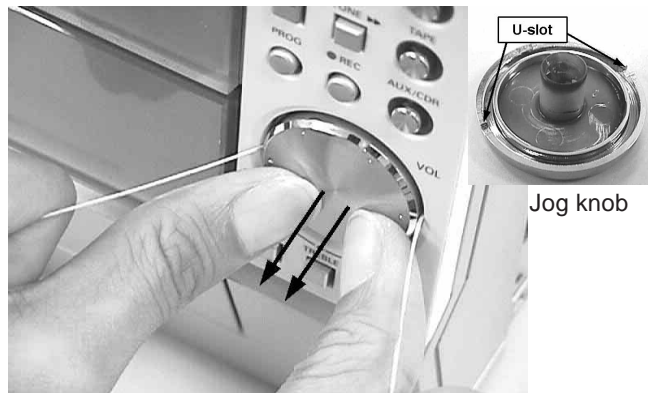

Figure 6
- 2) Insert a strong string into the slot between the Jog knob (pos 136) and Cover control (pos 137), looped it until it engage into both the U-slot of the Jog knob and pulled it out as shown in figure 6.